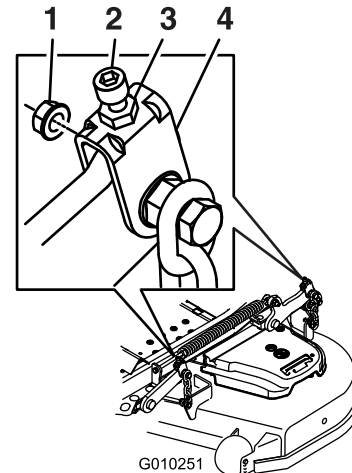

**Figure 90**
9. On both sides of the deck, measure from the level surface to the front tip of the blade (Position A); refer to Figure 90.
15. On both sides of the deck, measure from the level surface to the back tip of the blade (Position B). The measurement should read 8.3 cm (3-1/4 inches); refer to Figure 90.